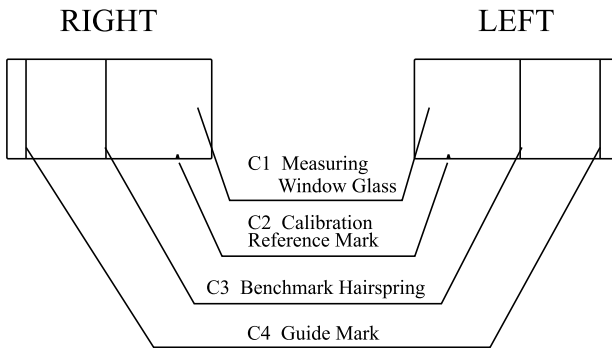

Fig.4
5.3 Viewed from the Measuring Window (as shown in Fig.4)